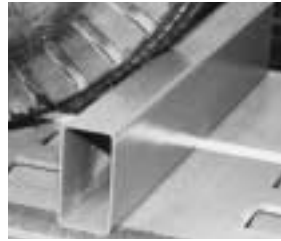

Figure 28
- Immediately after positioning vehicle on mainframe, put vehicle in park (if automatic transmission), apply parking brake, and have helper block wheels and/or install optional wheel chocks at both front and rear of vehicle. Wheel chocks (see Figure 28) must fit securely within tie down holes on mainframe with wheel chock label facing tire.**